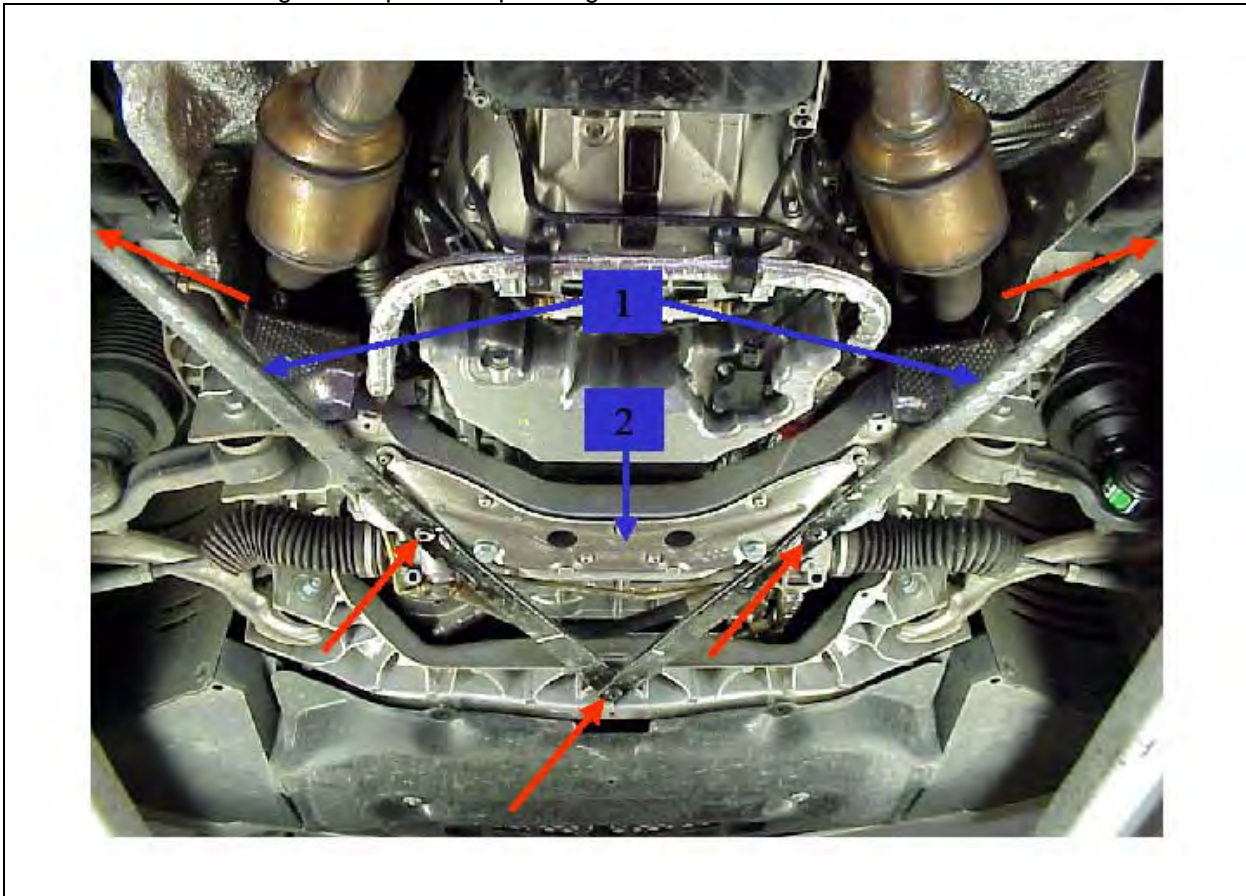

Figure 1
If you receive customer reports of cracking noise when steering left or right at low speeds just before limit stops, noticeable also at steering wheel this may be caused by lost preload and settling or poor contact surface between diagonal struts (Figure 1, 1) or the reinforcement plate (Figure 1, 2) and the front axle carrier. The cracking movement is noticeable on the steering gear on a stationary vehicle with wheels on the ground when steering to left or right. To resolve it is necessary to clean bolted contact surfaces between diagonal struts, reinforcement plate and the front axle carrier.
3. Remove diagonal struts (Figure 1, 1).
7. Install reinforcement plate (Figure 1, 2) on front axle carrier. Torque retaining bolts to 12 Nm. Refer to BA62.30-P-1006-01A entry in WIS doc BA62.30-P-1000-01A.
8. Install diagonal struts (Figure 1, 1) and torque retaining bolts to 70 Nm. Refer to BA62.30-P-1004-01A entry in WIS doc BA62.30-P-1000-01A.